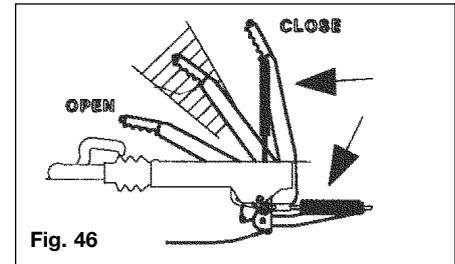

Fig. 46
**Handbrake Lever With Spring Cylinder and Gas Strut (Fig. 46), normally fitted to commercial units:**